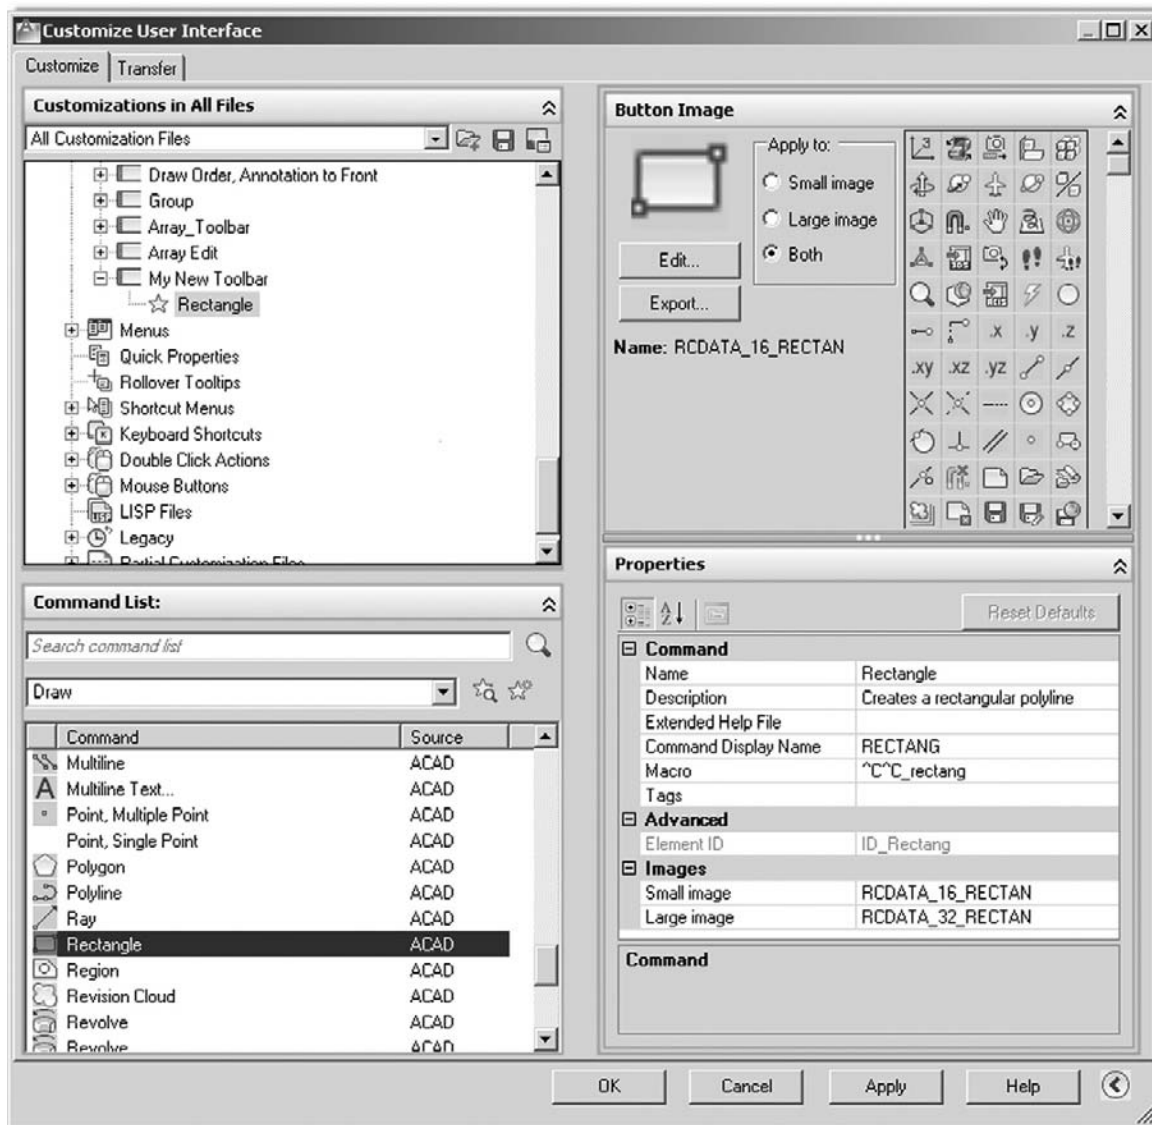

FIGURE 14.20
Step 2. On the bottom left begin selecting the commands you want your new toolbar to have (you can filter the commands to find them easier), and drag them into the new toolbar name on the upper left. As soon as you begin doing this, a toolbar preview and Button Image category appear on the right-hand side, as seen in Figure 14.20, when “rectangle” was added as the first command.